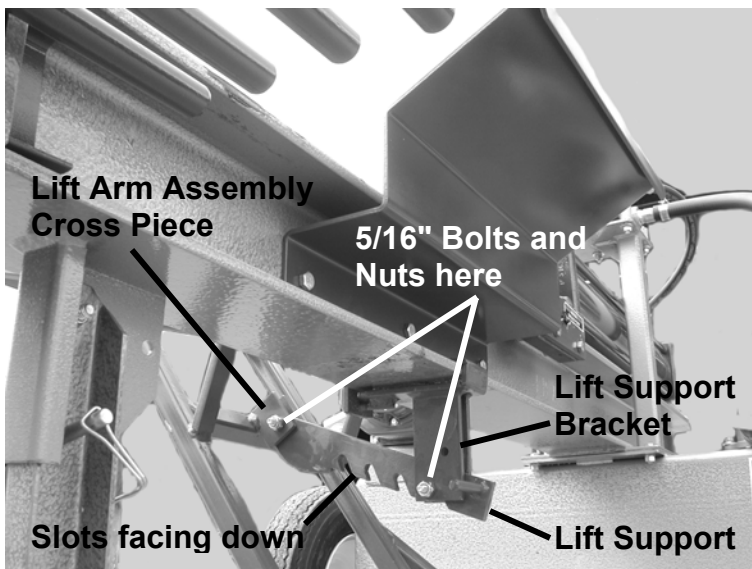

Figure 9
- Bolt left end of the multi-position Lift Support into the bracket on the Lift Arm Assembly's crosspiece using 5/16" bolts and 1/2" socket or wrench, making sure that the slots in the Lift Support face down (Figure 9).
- Hold the Lift Support up between the arms of the Lift Support Bracket and install a 5/16" bolt through the lower set of holes in the bracket below the right end of the Lift Support and tighten with a 1/2" socket (Figure 9).
- b.) Return to the “Operator Zone” and pull back on the Log Lift handle (*Figure 1*) to raise the lift until the log rolls onto the splitter H-beam. The Lift Support will engage in multiple positions as the Log Lift is raised (*Figure 9* on page 13).